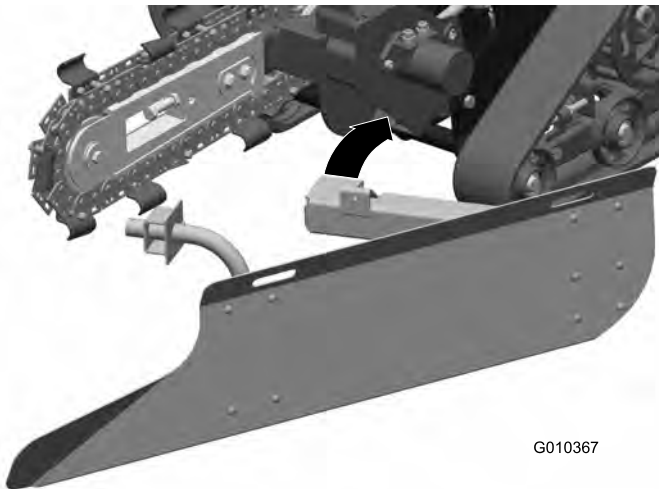

Figure 3
2. Slide the rear mounting bracket of the blade into the opening on the trencher to the left of the boom, seating it on the crossbar (Figure 3).